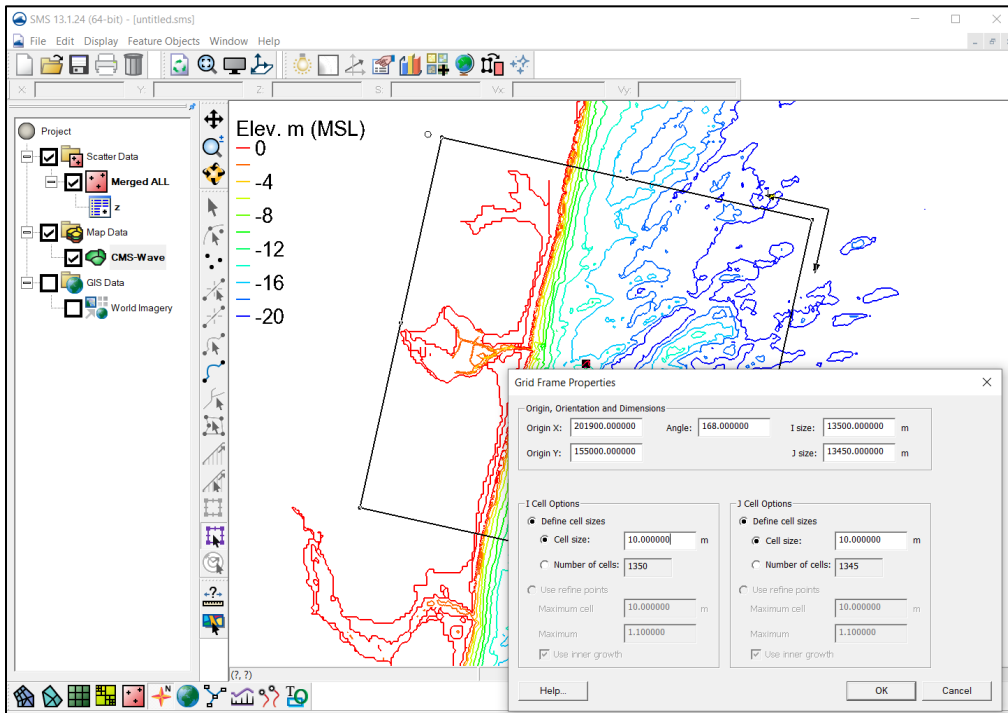

Figure 5. Selecting and adjusting Cartesian grid frame.
- Using (click) the **Select 2-D Grid Frame**  tool, click on the selection box in the middle of the grid frame. In this example, the origin should be located in the top right corner of the grid, as indicated by the arrows (Figure 5).